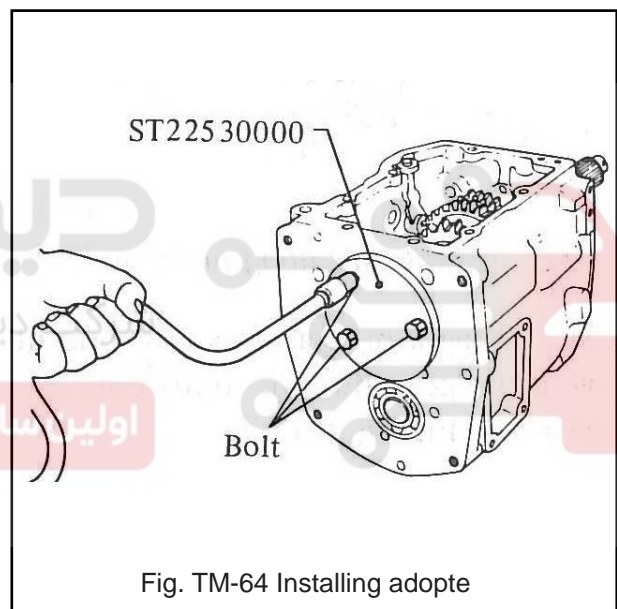

Fig. TM-64 Installing adopte
7. Install adapter ST22530000 on the front side of transmission case to support the front end of mainshaft. Use front cover securing bolts. See Figure TM-64.